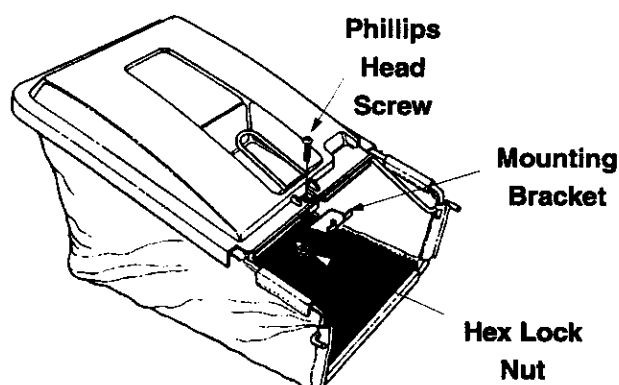

Figure 9
7. Place the mounting bracket under the front of the handle, with the tabs on the bracket facing up. Insert phillips head screw down through the hardtop cover and mounting bracket. Secure with hex lock nut. See Figure 9.